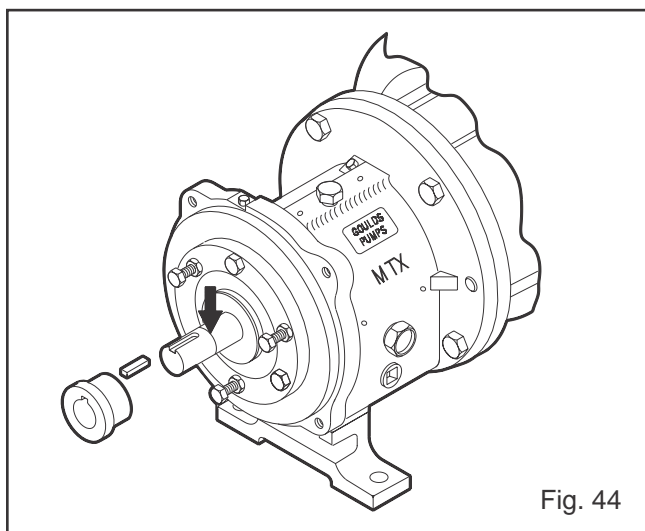

Fig. 44
12. Remove casing gasket (351) and discard. (Replace with new gasket during reassembly.)
13. Remove jack screws (418).
**NOTE: Casing gasket (351) may partially adhere to casing due to binders and adhesives in the gasket material. Clean all gasket surfaces.**
15. Support frame adapter (108) securely to workbench.
16. Remove coupling hub (Fig. 44).